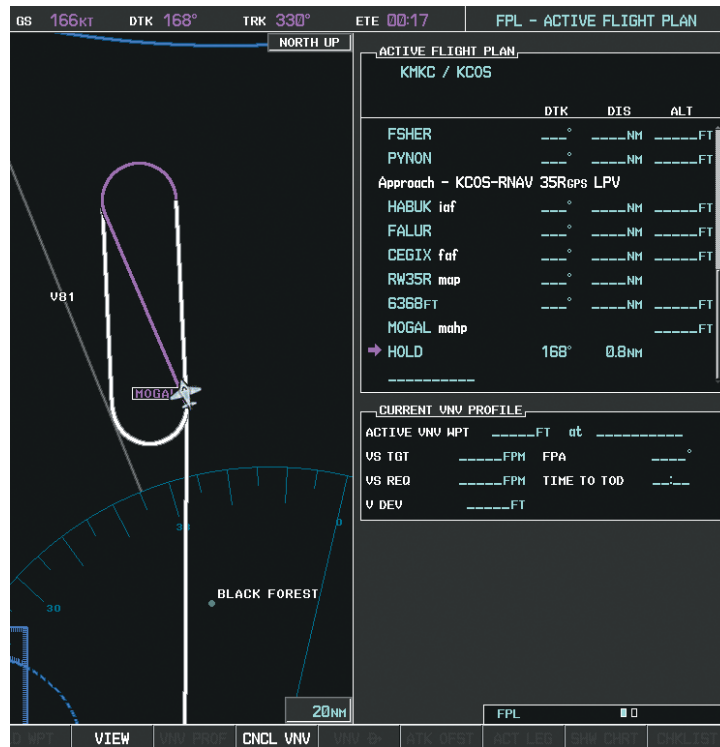

Figure 5-143 Establishing the Holding Pattern
- 26) The aircraft continues climbing to "AT or ABOVE" 10,000 feet at MOGAL. A holding pattern is established at the MAHP (MOGAL) as shown in Figure 5-143.